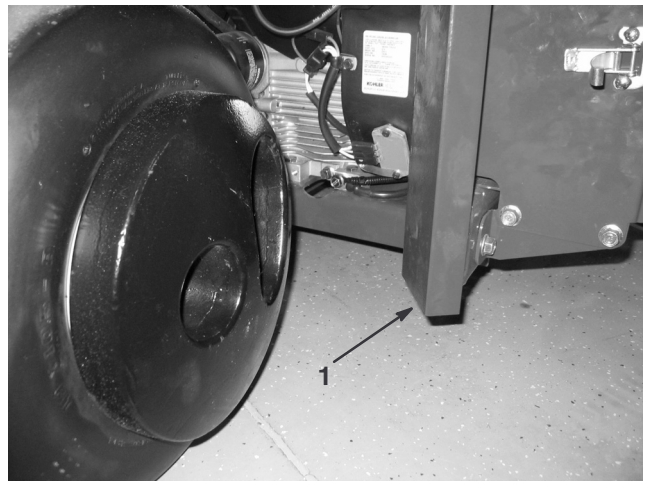

Figure 40
2. Position the jack securely under the front of the frame (Fig. 40).